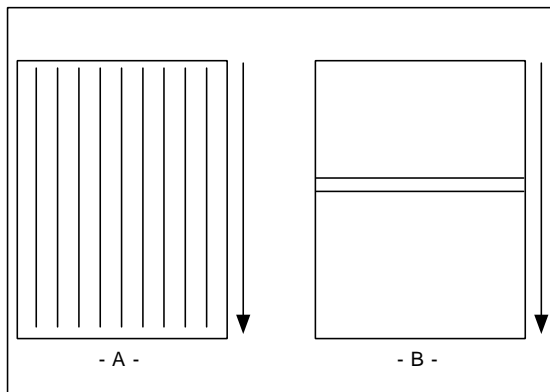

Fig. 25
- Straight waves in output (Fig. 25 A).
- Indent waves in output after pull rollers. (Fig. 25 B)